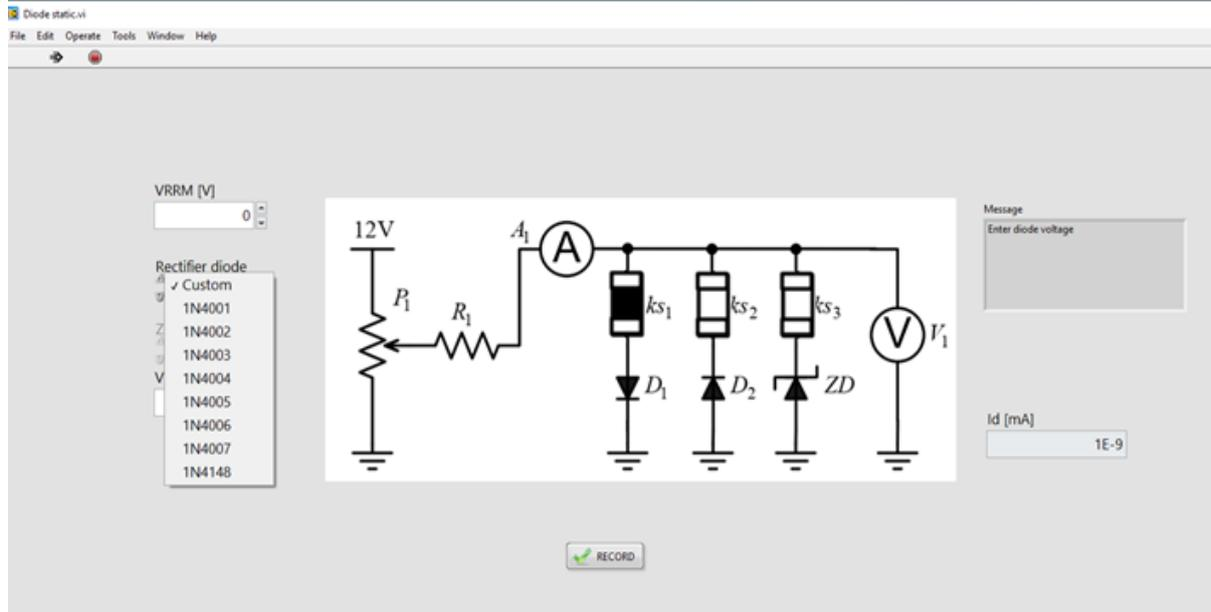

Figure 4.3 Diode type selection for recording static characteristic of forward biased diode
- Select the diode type; for this exercise it is 1N4001 diode (Fig. 4.3).